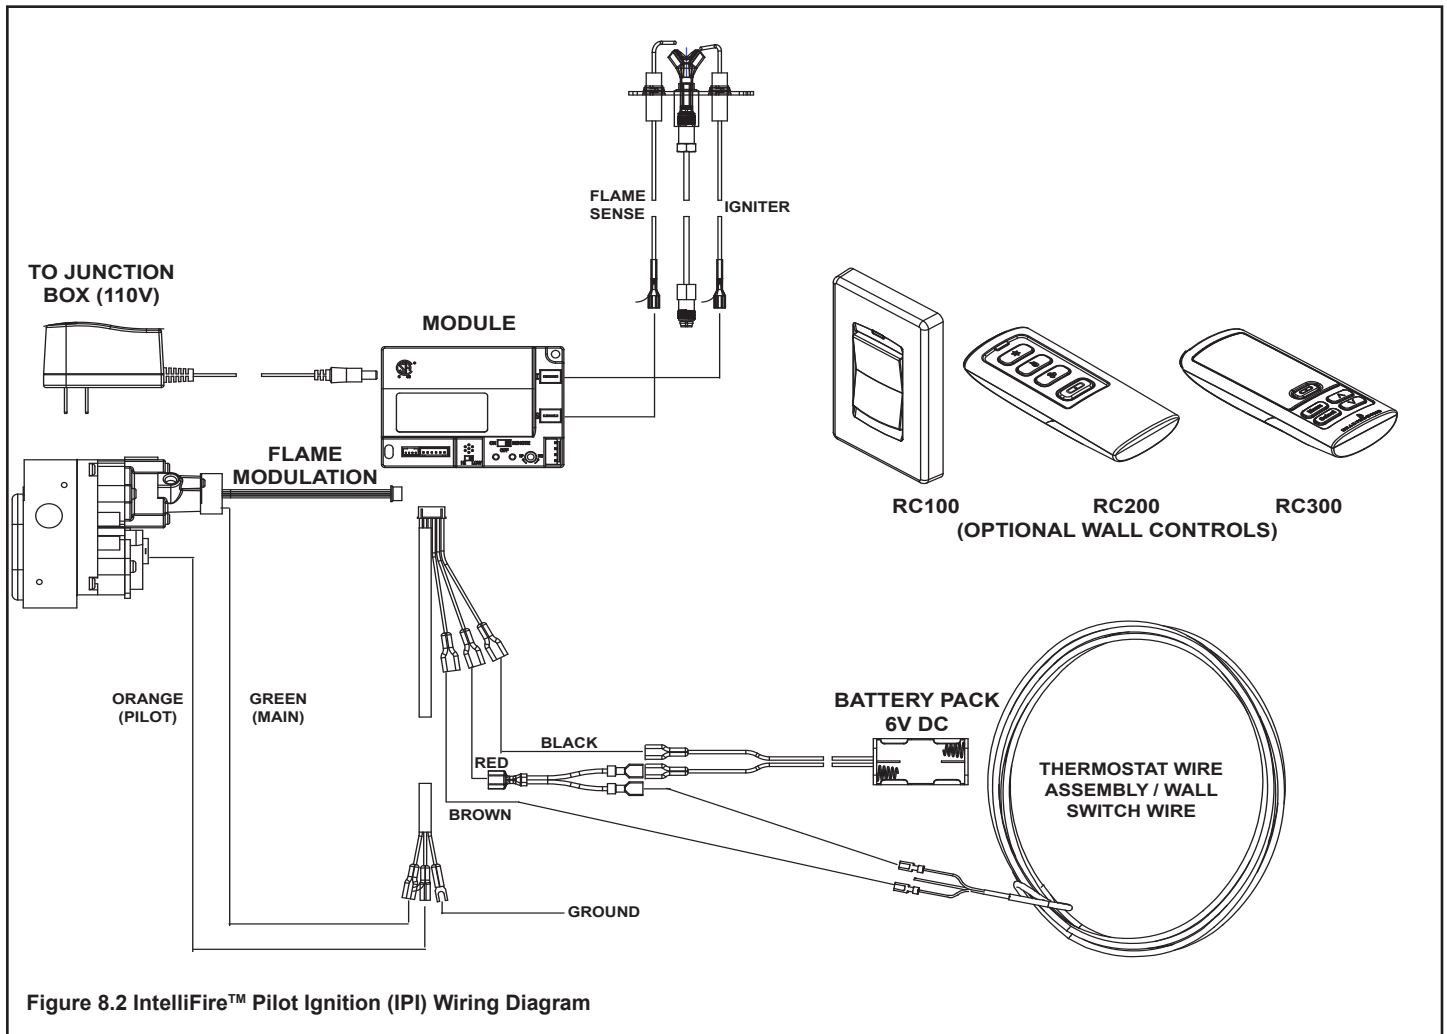

Figure 8.2 IntelliFire™ Pilot Ignition (IPI) Wiring Diagram
- Refer to Figure 8.2, IPI Wiring Diagram.